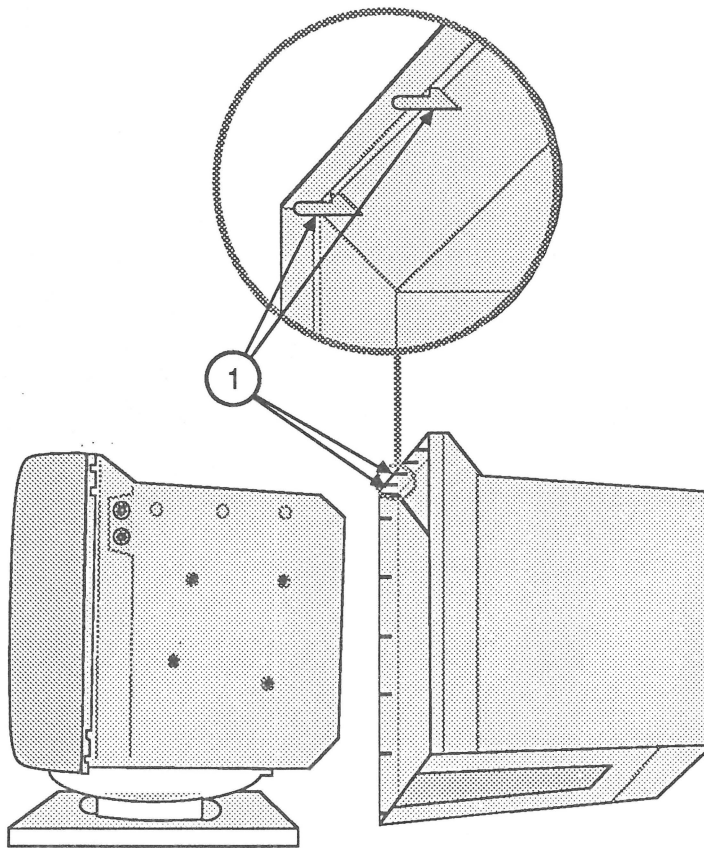

FIGURE 4
1. Slide the rear cover over the monitor chassis. Fit the "teeth" on the cover (Figure 4, #1) over the edges of the front bezel.